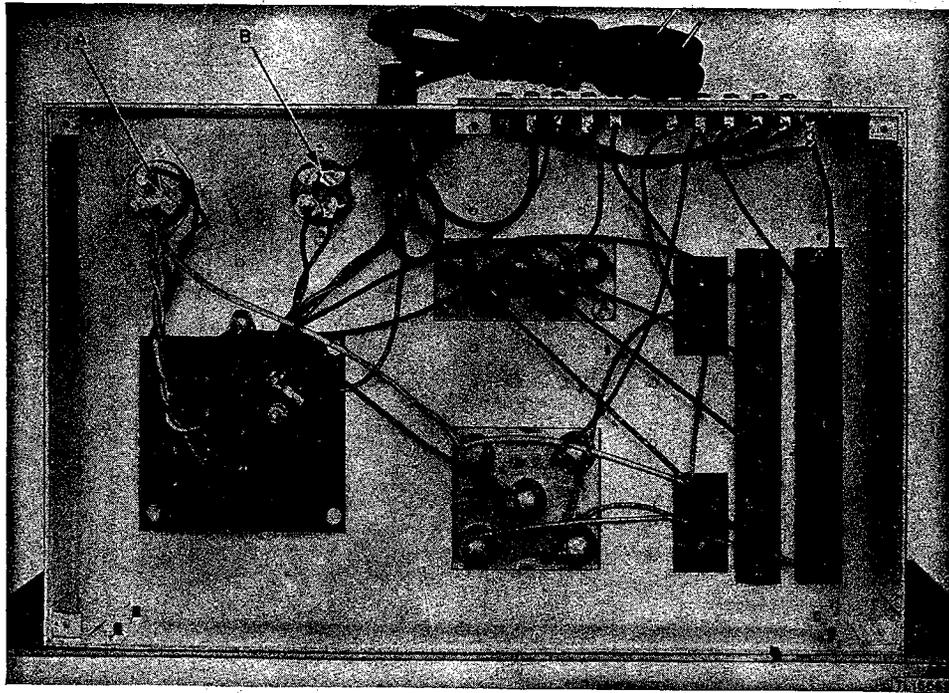

Figure 22. Power Supply Unit RA-94-A, bottom view of chassis, showing masking.
## 55. Power Supply Units RA-74-(\*), RA-84-(\*), and RA-94-A (figs. 22 and 23)
(1) Contacts of tube sockets (A and B, fig. 22).